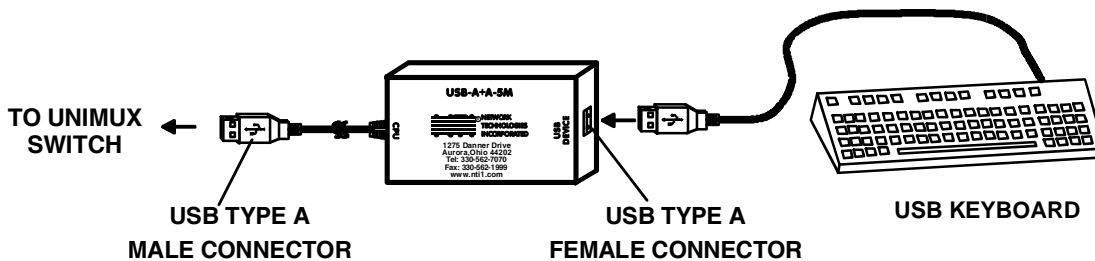

Figure 4- Use USB-A+A-5M to extend a device, or a computer
**Note:** If device cables are not long enough to reach the UNIMUX switch, they can be extended either 5 or 10 meters using either 1 or 2 NTI USB-A+A-5M Improved Active USB 5 Meter Extensions (purchased separately). (See Figure 4.) Contact your NTI salesperson for more details by calling (800) 742-8324 (800-RGB-TECH) or (330) 562-7070 or visit our website at <http://www.networktechinc.com>.